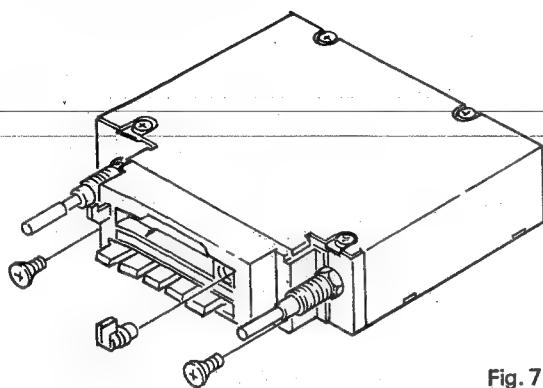

Fig. 7
2. Withdraw knob to take out front grille (see Fig. 7).